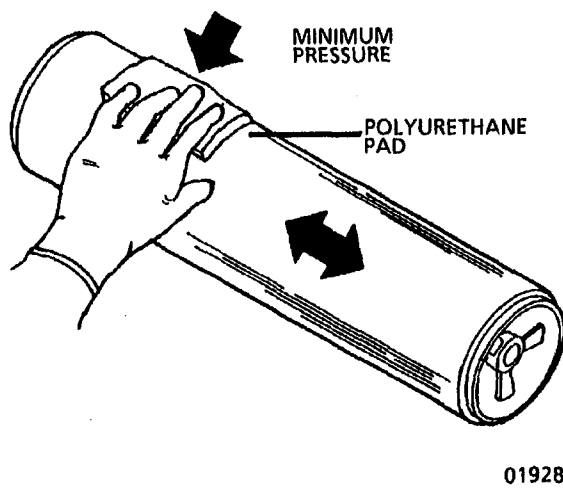

Figure 2. Polishing the Drum
9. (Figure 2): Polish the drum.